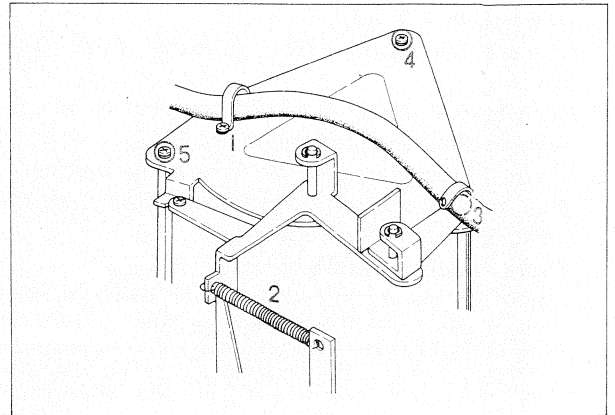

Fig. 1
2. Open lead clamp (1) in Fig. 1 and remove the leads.
3. Remove spring (2).
4. Remove flywheel bearing plate fixing screws (3) to (5).